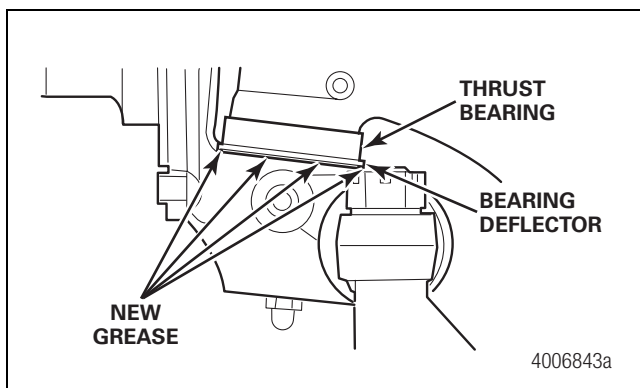

Figure 5.18
6. Apply lubricant into the bottom grease fitting until new grease appears from under the lower lip of the bearing deflector. Figure 5.18.